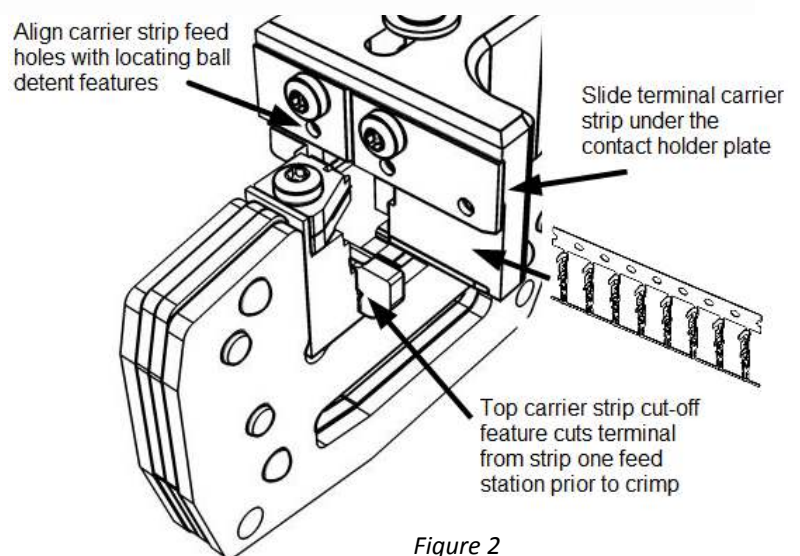

Figure 2
3. Slide the terminal carrier strip under the contact holder plate and align the carrier strip feed holes with the locating ball detent features. This tool is designed for a double carrier strip terminal. The top carrier strip cut-off tool separates the terminal from the strip one-strip-feed distance prior to the crimp station (Figure 2).
4. Cycle the handle one or two times to ensure the top carrier strip is separated from the terminal. The terminal should now be properly positioned and ready to crimp (Figure 2).